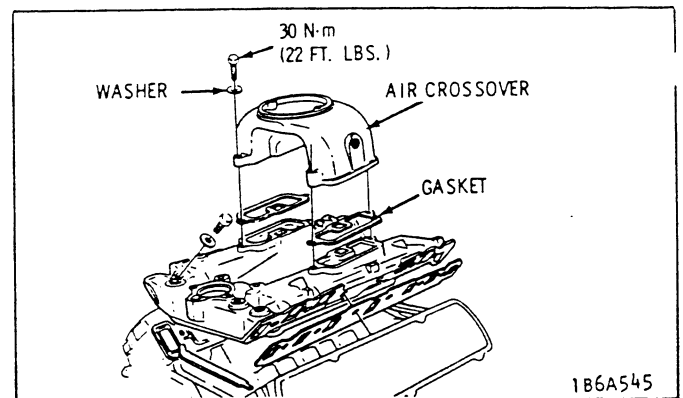

Fig. 6C5-6 V8 Air Crossover
1. Remove the air crossover (Figs. 6C5-6 or 6C5-7). Install the screened covers in the intake manifold openings; J-26996-10 on V8 and J-29657 on the V6.